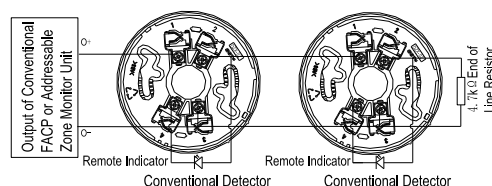

Fig. 6
- ◇ When the detector is connected with conventional FACP or addressable zone monitor unit, if a 4.7kΩ end of line resistor is connected to the end of output loop, DB-01 base is used. The system composition is shown in Fig. 6.